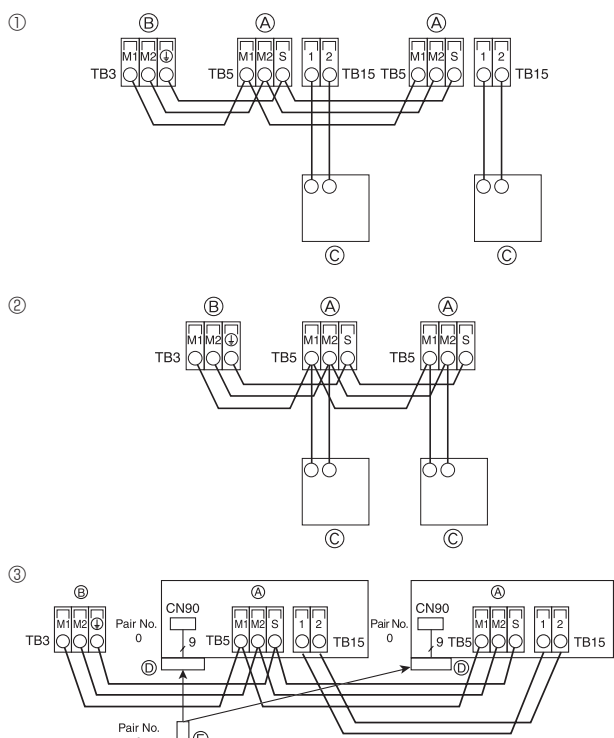

Fig. 4-5
4.4. Connecting remote controller, indoor and outdoor transmission cables (Fig. 4-5)